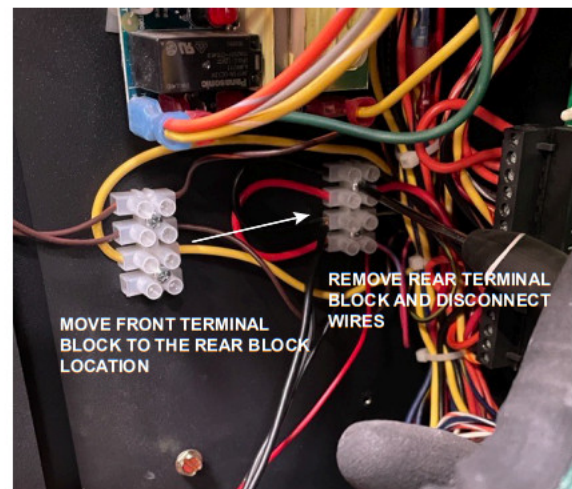
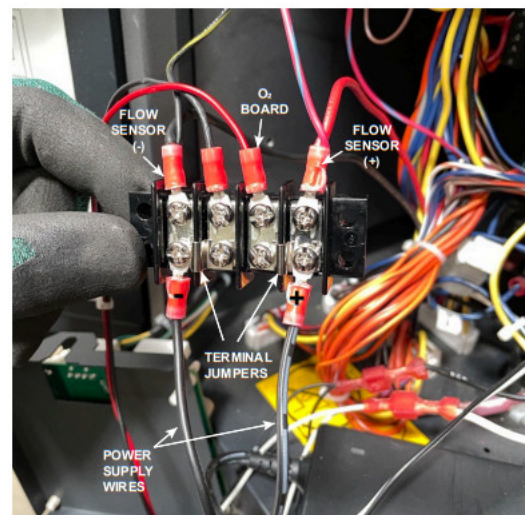

Figure 5. Relocate Terminal Blocks
Figure 6. Replacement Terminal Block Wiring
8. Using a Phillips head screwdriver, remove the existing two wire terminal blocks (front & rear). Remove the four (4) wires from the rear terminal block. Move the front terminal block (keeping the wires attached) into the rear terminal block's hole location. (See Figure 5.)
9. Crimp supplied terminal forks onto the four (4) wires removed from the rear terminal block.
10. Install the two (2) supplied bridge jumpers at the bottom of the terminal block and the four (4) terminal forks into the upper section of the terminal block. Insert the two power supply terminal forks on top of the bridge jumpers. Using a Phillips head screwdriver, tighten all terminal connectors to secure. (See Figure 6.)
11. Using a 1/8" drill bit, create two (2) new holes for the new wiring terminal block.